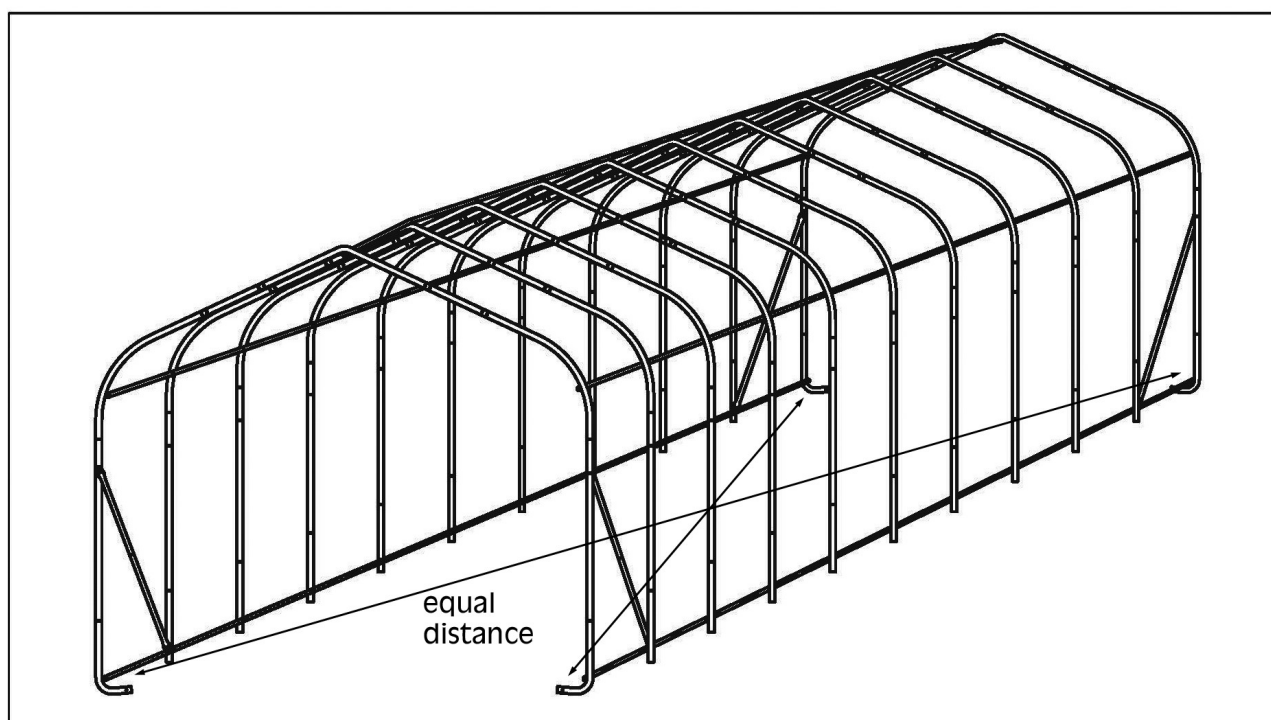

Figure 7
1. When the garage frame is assembled and in its final location, use the rope (19) to measure the distance between opposite corners, see Figure 7. Mark the rope and check the distance of the other two corners; the distance should be the same. If not, adjust the frame until it is.